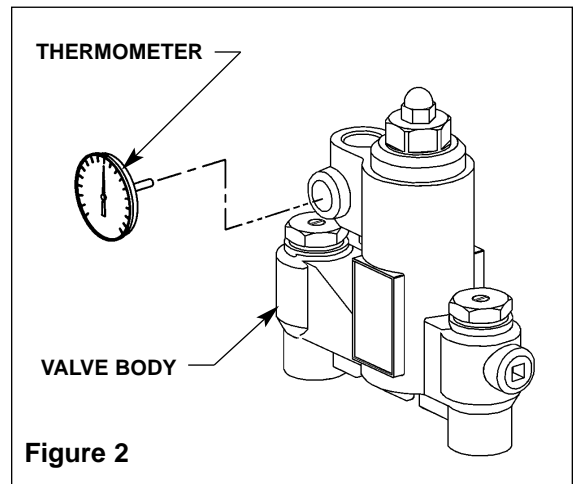

Figure 2
3. **OPTIONAL THERMOMETER:** Screw the thermometer into the hole in the valve body (see Figure 2). The thermometer provides a readout of the outlet water temperature.